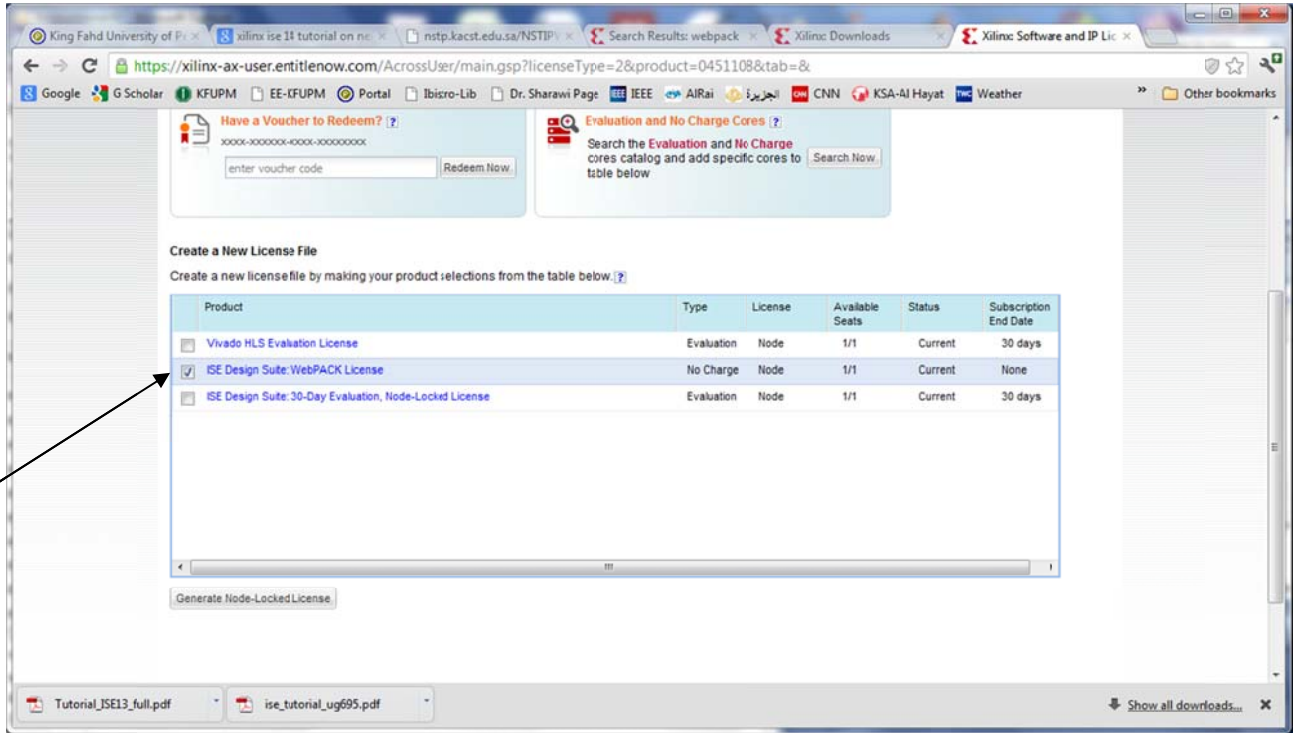
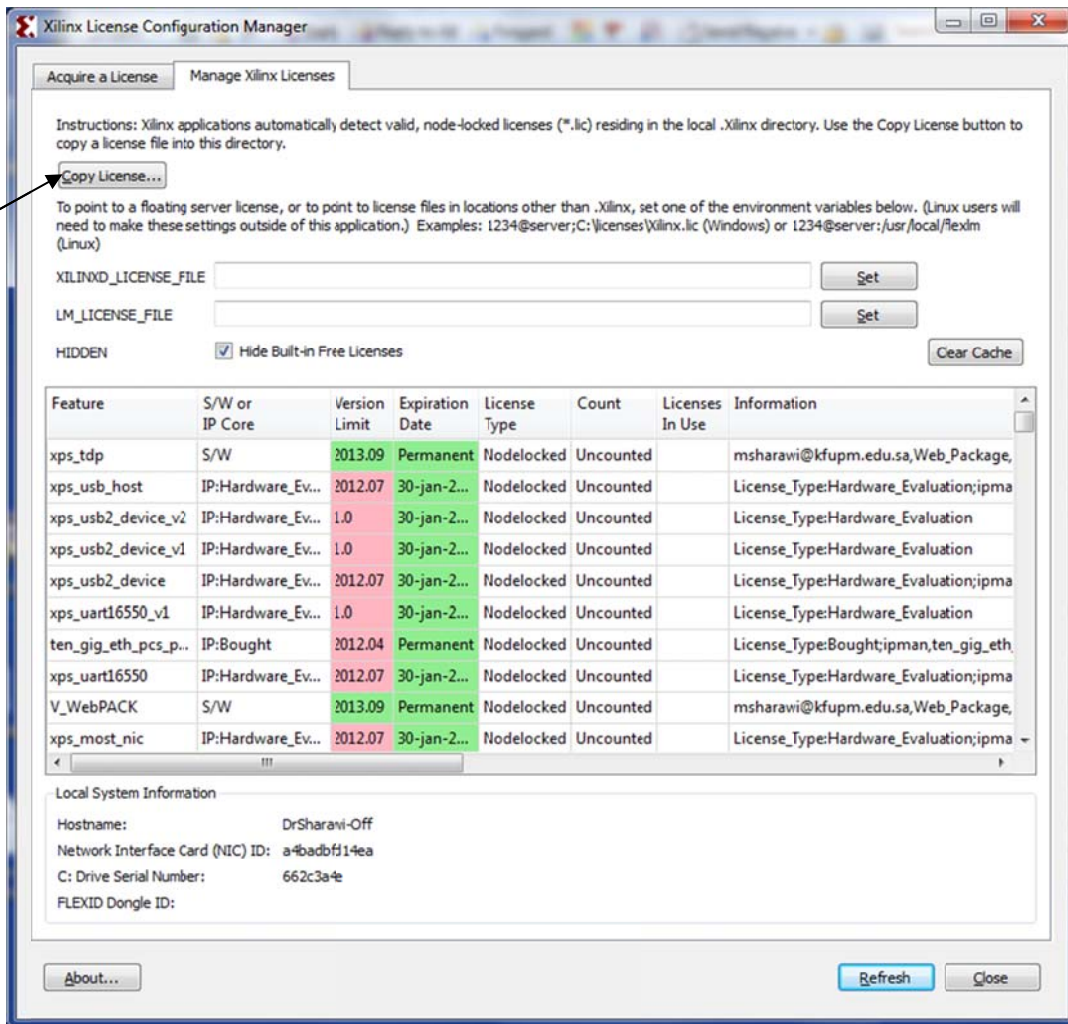

Figure 6A
Figure 7A
4. Register for a user account on Xilinx website to get a valid license. Choose the option shown in Figure 6A. You will get a license file via email for your machine. Save the license file in a specific folder, and then click on copy button in Figure 7A, and direct the tool to the location of the saved license file.